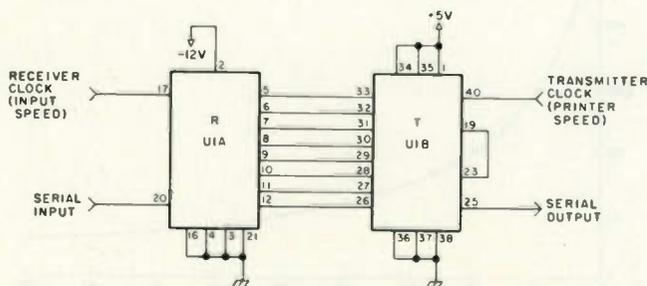

Fig. 1. AY-5-1013 UART.
Okay, so how do we find out how long a "word" is? A mathematical analysis of the 26 letters of the English alphabet (Fig. 1, column B) shows the average length of a character to be 8.3 elements. Now, it would seem that if we simply multiply the average character length of 8.3 times 5 (41.5), then add 3 elements for each of the 4 character spaces (12), plus 7 elements for the word space since it must be included in our time frame, we end up with a word length of: $41.5 + 12 + 7 = 60.5$ elements.
don't agree, as you can see in Fig. 1, columns C and D, so we averaged them out and came up with the distribution in column E, plus the element count in column F. Now we find that the average letter is about 6.18 elements, rather than 8.3. Substituting in the above formula, our word length is now: $31 + 12 + 7 = 50$ elements.
Fig. 1 shows the actual UART circuitry. Not much to it, is there? I'm using an AY-5-1013 UART, as it was available at a reasonable price. U1A represents the receiver section and U1B the transmitter. The connections 5 through 12 on the receiver and pins 26 through 33 on the transmitter are the parallel data lines. This one is shown connected for 8 bits of data. Since Baudot code uses 5 bits of data, it is only necessary to connect pins 8
If you are interested in the whys and wherefores of the other pin connections, I shall refer you to the references at the end of this article or, better yet, to the UART data sheet. The UART shown in Fig. 1 is connected for one stop bit, five data bits per character (Baudot), and no parity bit.